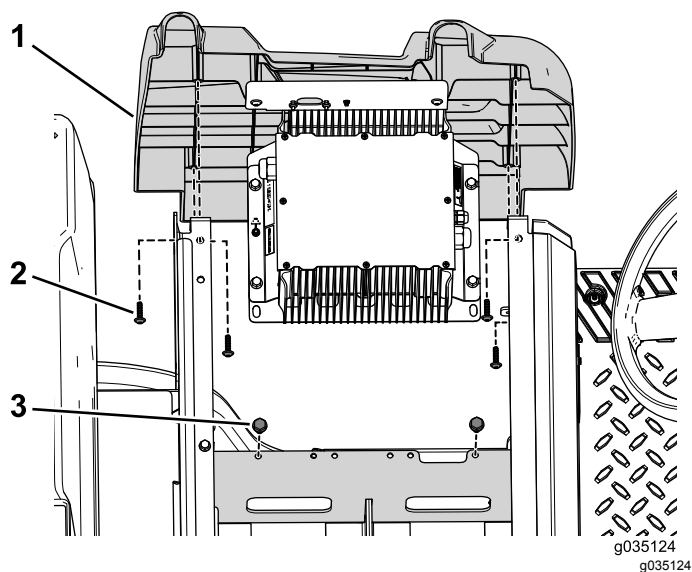

Figure 10
2. Remove the 2 bolts securing the charger bracket to the battery tray (Figure 10).
3. Remove the 4 self-tapping screws securing the left side panel to the machine (Figure 10).
1. Secure the left side panel using the previously removed 4 self-tapping screws (Figure 10).
2. Secure the charger bracket to the battery tray using the previously removed 2 bolts (Figure 10).